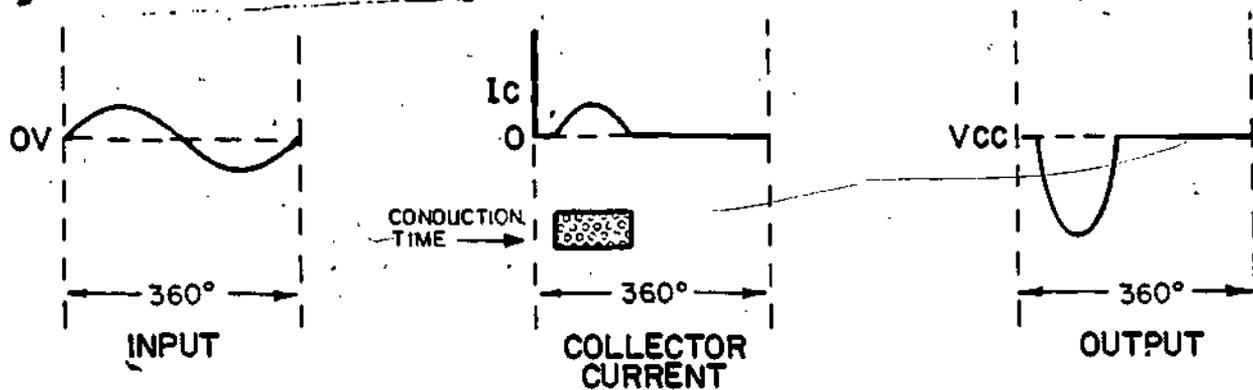
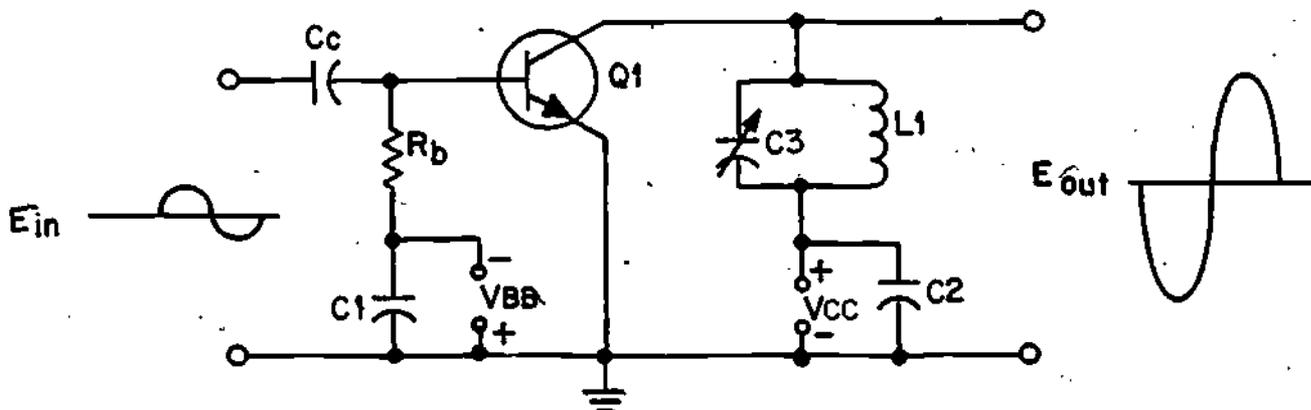

Figure 31
Figure 32
33. The concluding class of amplifier biasing is Class C. Figure 31 shows the operation of Class C amplifiers.
In Class C amplifiers, the transistor conducts for the shortest duration of the four amplifier classes. In the center diagram of Figure 31, the bar chart shows that the transistor conducts for less than a half of the input cycle, or about  $120^\circ$ . Class C amplifiers are reverse biased which causes the transistor to cutoff for over half of the input cycle. The output waveform in Figure 31 is the most distorted of all amplifier classes. However, Class C amplifiers are also the most efficient because they conduct for the shortest time duration.
34. It doesn't look like the voltage and current outputs of Class C amplifiers would do much good, does it? Now let's look at an actual circuit in Figure 32, and see how Class C bias is used.
In the figure you can see the reverse bias on Q1 as  $-V_{BB}$ . Therefore, you would expect the output signal to resemble class C as shown in Figure 31. However, as shown in Figure 32 the output signal actually looks like an amplified version of the sine-wave input signal.